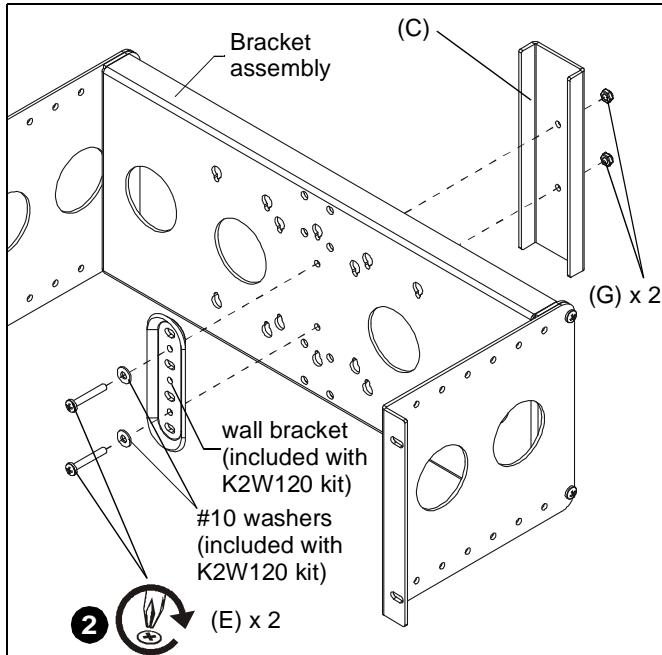

Figure 5
2. Install FWD wall bracket (included with K2W120 kit) to bracket assembly and FWD support (C) using two 10-24 x 1-1/4" Phillips head screws (E), two #10 washers (included with K2W120 kit) and two 10-24 lock nuts (G). (See Figure 5)